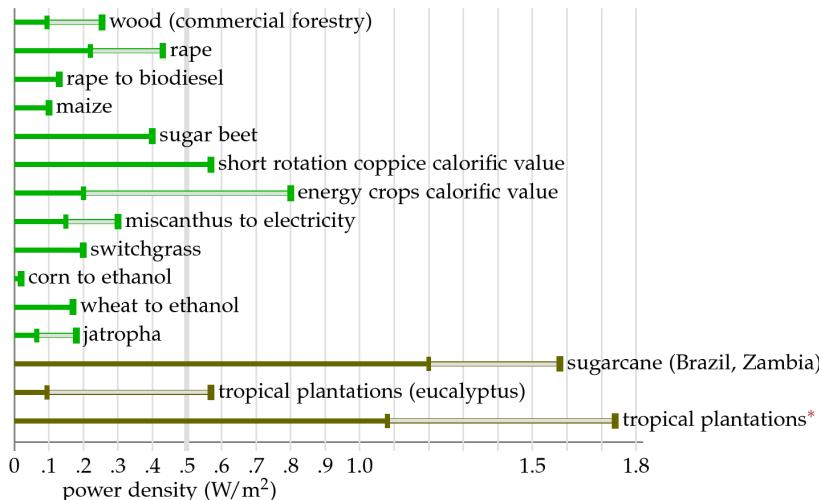

Figure 19.1: Efficiencies for various forms of bio-energy. Figure 6.11 from MacKay (2009).
Figure 19.1 (MacKay, 2009, Fig. 6.11) shows the efficiencies of various forms of bio-energy in units of W/m². All of these efficiencies are puny compared to solar PV. The statistics shown in green are for northern Europe. Based on this, it seems very unlikely that bioenergy could be a reasonable contributor to energy in northern Europe or similar climates. There is some hope that bioenergy grown in tropical regions could contribute non-negligibly.
3. Suppose that you decide to heat your house with wood. Assume that the efficiency of your woodstove will be the same as the efficiency of your oil furnace.⁶ How much land would you need to get this amount of power? Refer to Fig. 19.1 from the textbook.